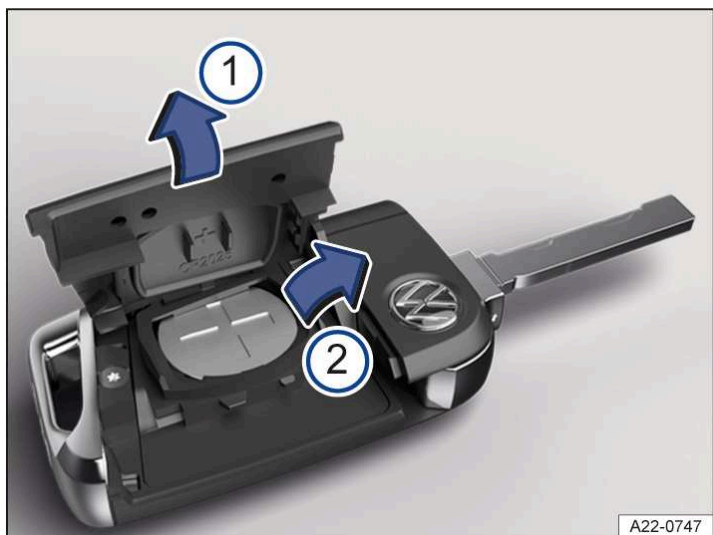

Fig. 1 Vehicle key: replacing the button cell (illustration).
- ① Cover.
- ② Button cell.
2. Prise off the cover → Fig. 1 ①.
3. Lever the button cell out of the battery compartment → Fig. 1 ② , → .
5. Press the cover onto the housing → Fig. 1 ① , → .